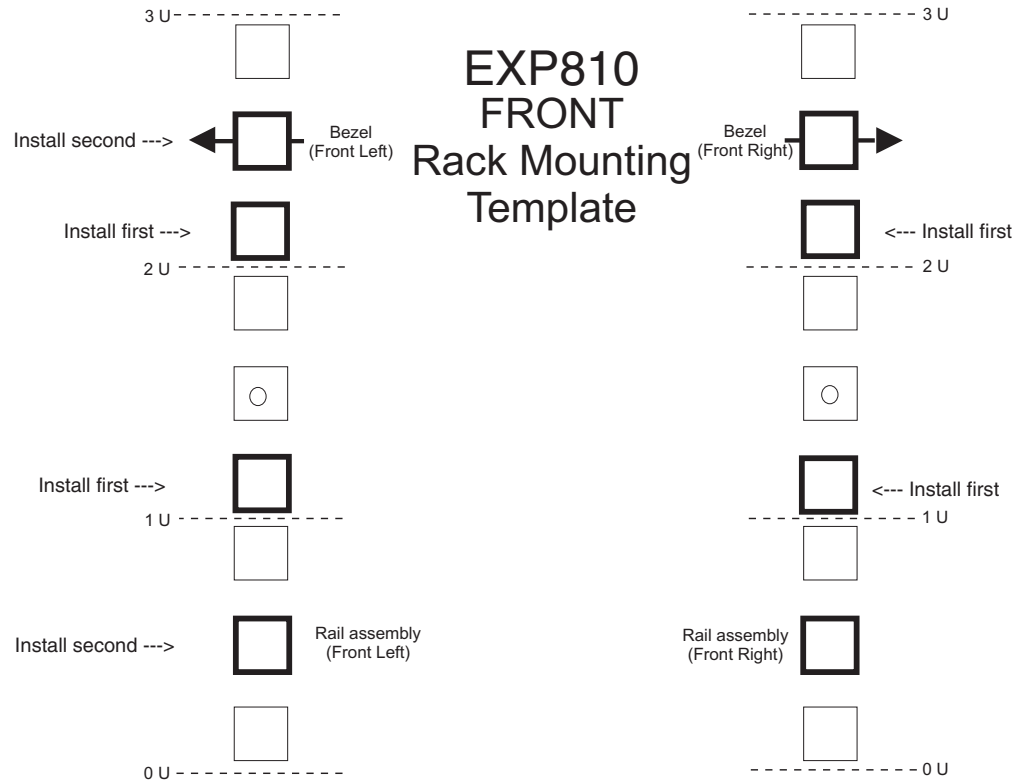
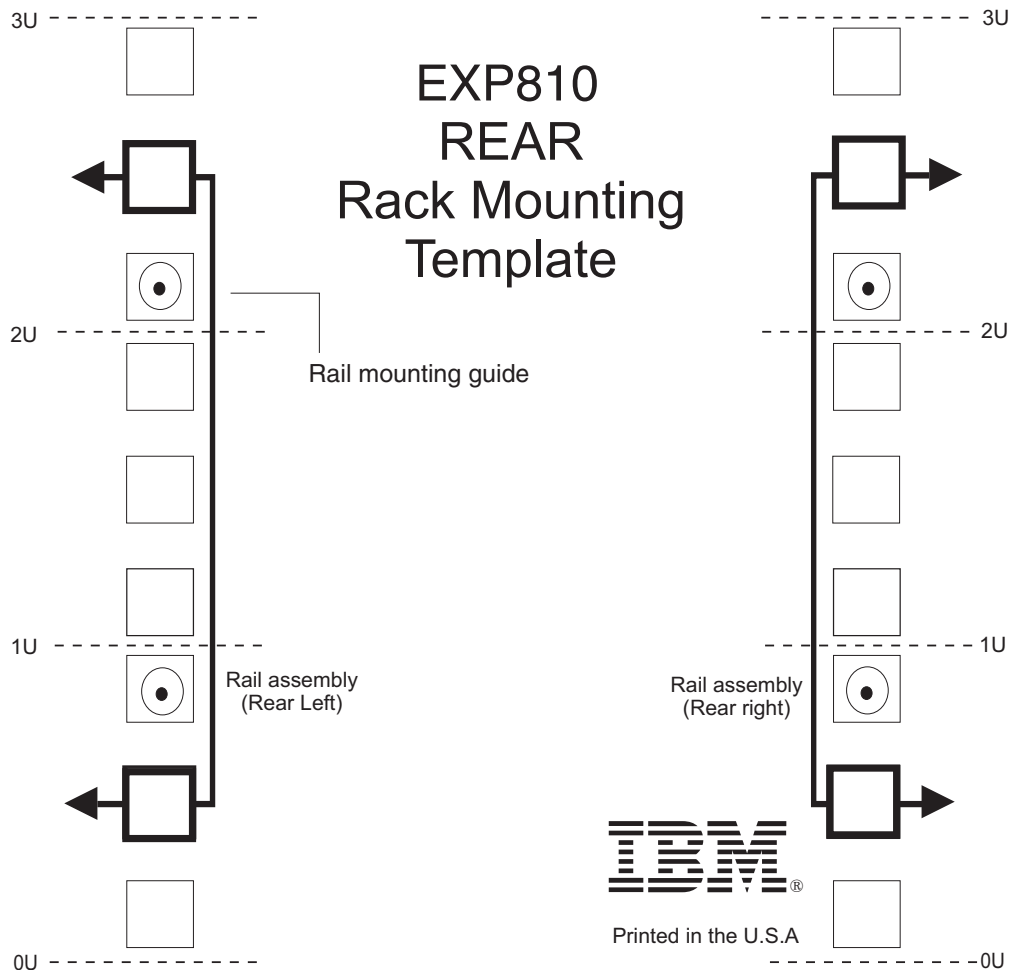

Figure 11. Front rack mounting template
Figure 12. Rear rack mounting template
Use the following templates (Figure 11 on page 25 and Figure 12 on page 26) to identify the proper locations for inserting M5 screws when mounting the support rails and EXP810 to a rack. The locations for the M5 screws are highlighted in the templates.
Attention: Use the rack mounting template provided in Figure 11 on page 25 and Figure 12 on page 26 to locate the proper rack mounting holes for installing the support rails into the rack.
- Hold the back of the rail against the inside of the rack-mounting flange. Make sure the rail mounting guide pins are in the correct holes. See Figure 12 on page 26 for illustration.
Note: Be sure to install the screws labeled *install first* in Figure 11 on page 25.